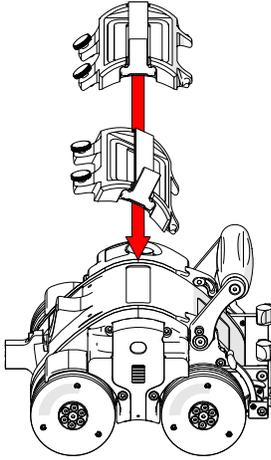

Fig. 100 - Angle backpack
1. Angle the backpack (Fig. 100) towards the notches found on the **SKOOT** (located near the base of the handle).